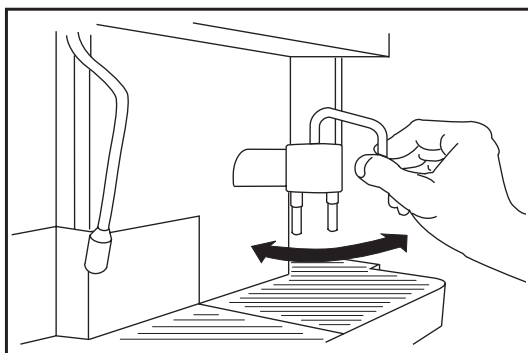

Fig. 10
- Take one or two cups from the cup warmer, place them under the outlet and press the selection button corresponding to the desired product. The machine will automatically stop, when the programmed coffee level has been reached. The coffee flow can be stopped at any moment, by pressing any coffee selection. In case you need to use particularly high cups or glasses, the coffee can be dispensed from the upper nozzle by rotating it on the right side, (fig.10) thus avoiding the coffee flow to be dispensed from the lower nozzles.